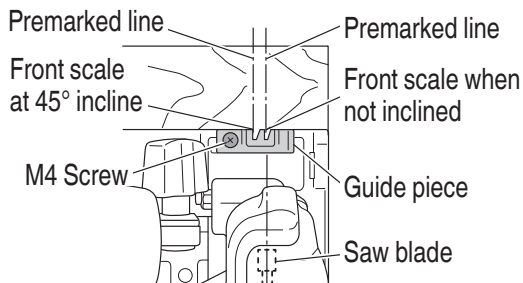
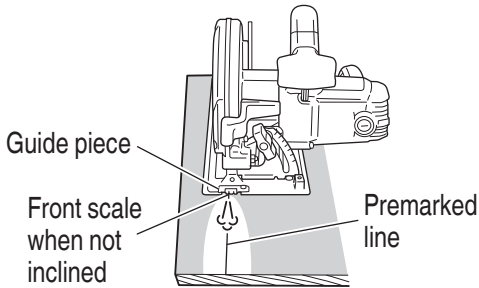
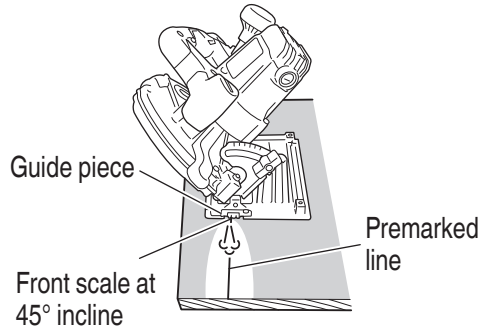

Fig. 8
Fig. 10
Fig. 11
When the saw is shipped from the factory, the linear portion of a front scale on the guide piece is aligned with the central position of the saw blade (Fig. 8).
1. Place the base on the material, then align the premarked line and the sawblade with the guide piece front scale section at the front of the base (**Fig. 8 on page 25**). When the base is not slanted, use the large cutout as the guide (**Fig. 8 on page 25 and Fig. 10**). If the base is slanted (45 degrees), use the small front scale as the guide (**Fig. 8 on page 25 and Fig. 11**).